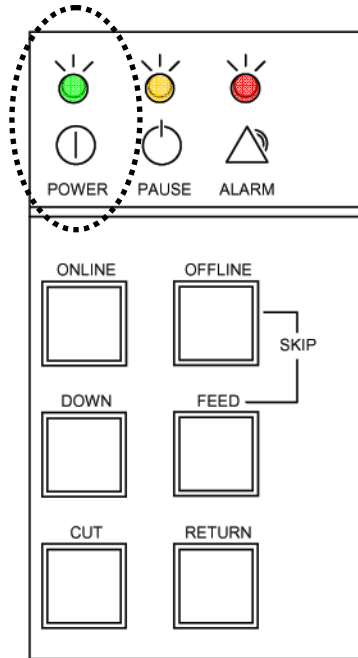

Figure 3-2. POWER LED switch (circled) for powering up.
1. If the **POWER LED** is not illuminated, press the **POWER LED** switch to power up the printer. (See Figure 3-2.)